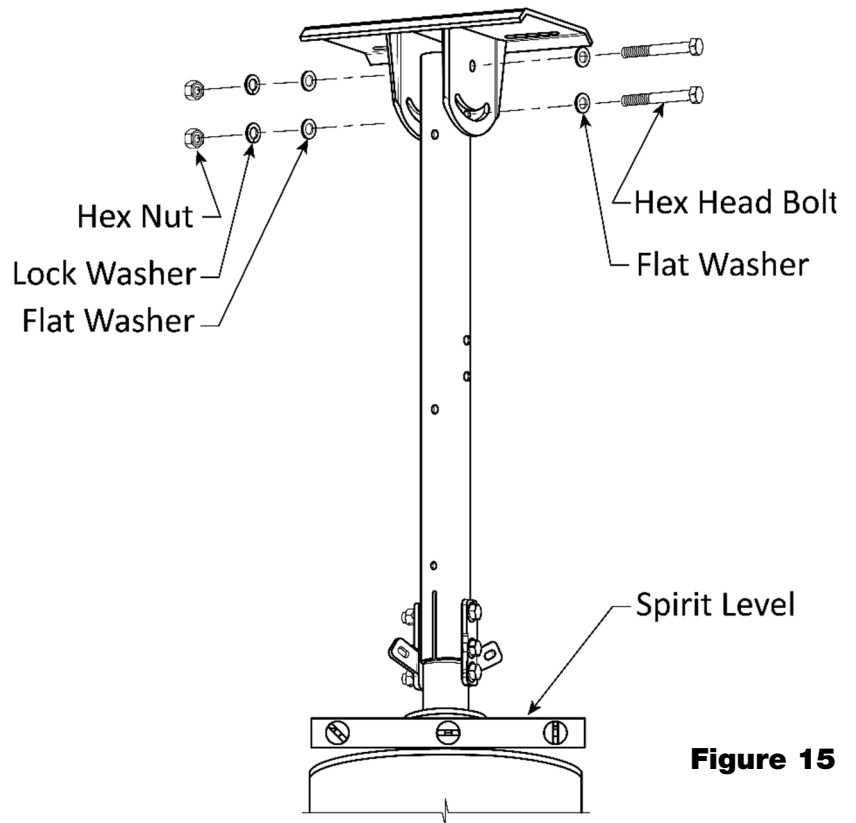

Figure 15
4. Secure the Fasteners finger tight as indicated in **figure 15**.